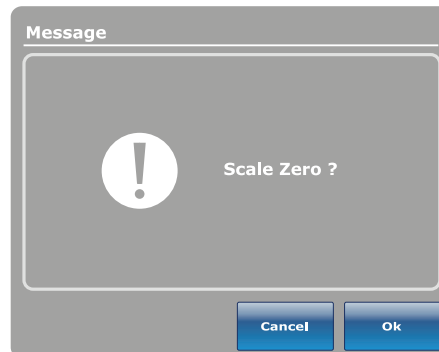

Figure 24: Scale Zero?
2. To confirm setting the scale to zero, tap **Ok** (Figure 24 on page 45).
To cancel the request, tap **Cancel** (Figure 24 on page 45).